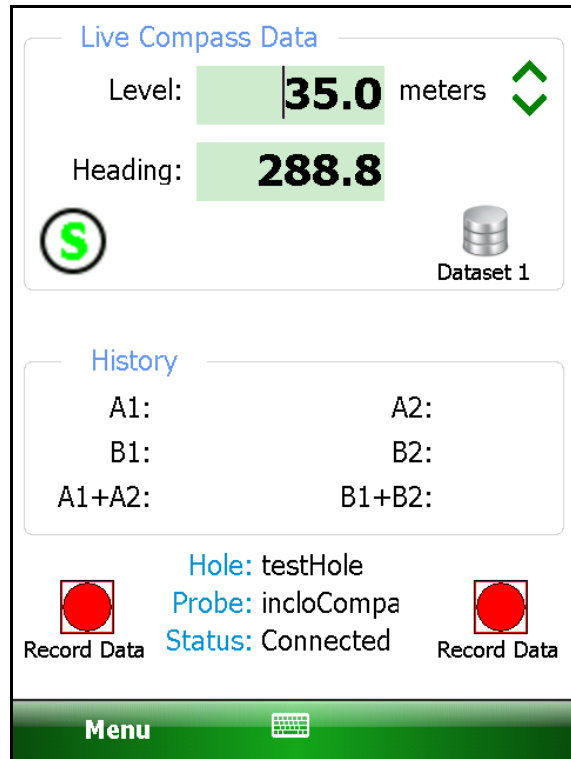

Figure 95 - Live Compass Data
7. With the compass enabled, a survey is performed as normal (see Section 3.3.1) and the compass heading can be displayed at any level by tapping on "Menu->View Compass Data", displaying the screen shown in figure 95.